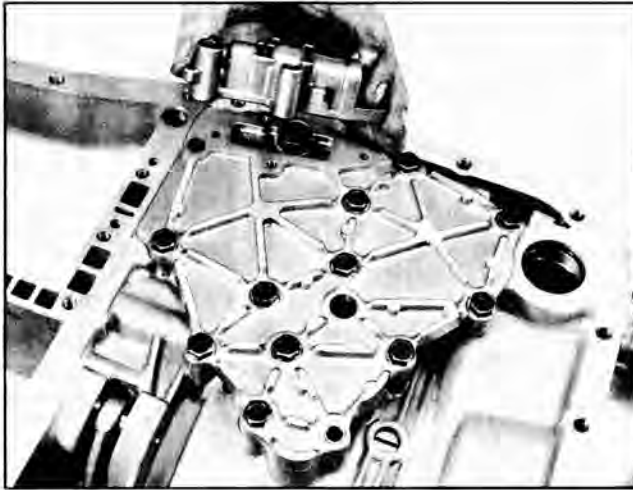

Fig. 137 Installing Compensator Valve Body
13. Install 8 servo and accumulator cover bolts leaving the remaining bolts until installation of the compensator body and the strainer. Torque to 6-8 ft. lbs. (Fig. 137).
1. Install governor feed screen in rear bearing retainer (Fig. 137).